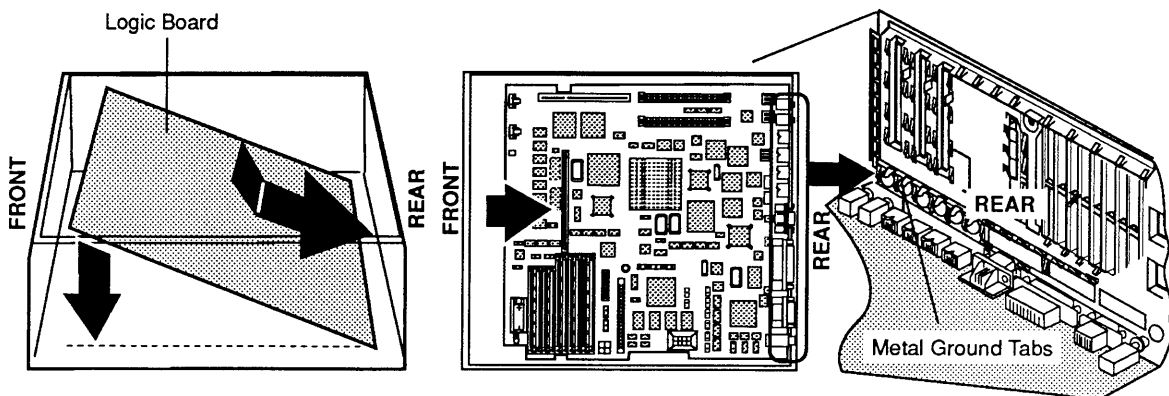

Figure 2-17 Replacing the Logic Board
1. Insert the logic board into the case, back end first, so that its connectors align with the openings in the back of the bottom case (**Figure 2-17**).
2. Lay the board flat on the bottom. Make sure the slots in the logic board fit over the gray tabs on the bottom of the case (**Figure 2-17**).